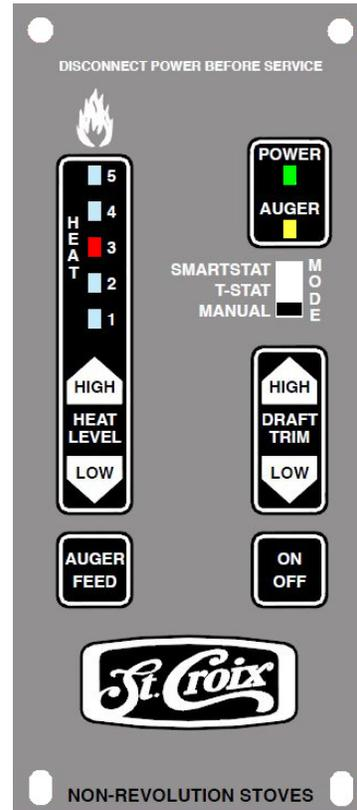

Figure 17
A closer look at the Control Board to the right in figure 17 will explain how the board works. There are essentially 4 buttons on the control board. Two of these buttons, the **Heat Level** and **Trim** Buttons, have a High/Low side to advance these settings up or down. There is a **Slide Switch** that controls the Thermostat Mode and an **LED Light** bar that indicates which of the 5 Heat Settings the Ashby-MF is running on.
4. Close the door and push the On/Off button on the control board. (See figure 17 on page 29)